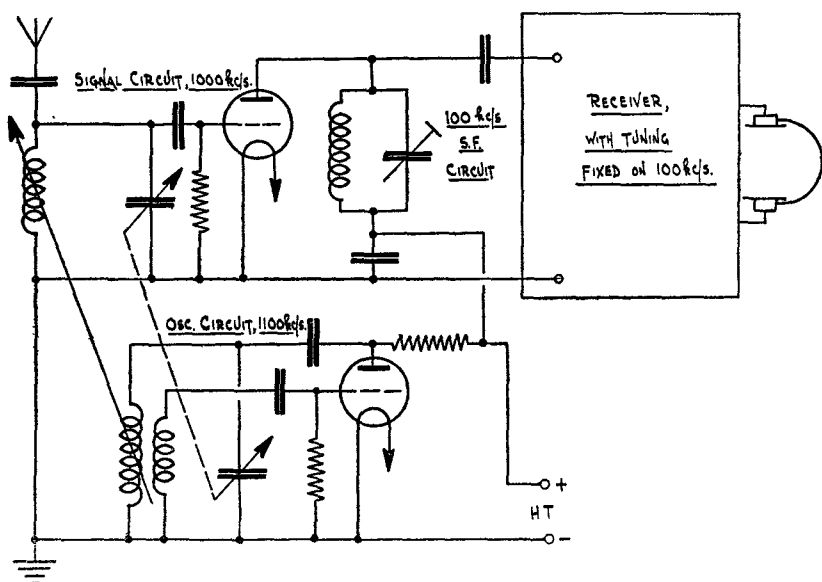

FIG. 74.—Simple “superhet” receiver.
This arrangement is, in fact, functioning as a “frequency changer”. The 100 kc/s signal would not operate the telephones in fig. 35, being above audibility (i.e. “supersonic”); coupling a straight receiver tuned to 100 kc/s to the anode circuit of the frequency changer produces a simple supersonic heterodyne (“superhet”) receiver (fig. 74), which will give the following advantages over a “straight” receiver.
3. A frequency changer of the type in fig. 74 has the serious disadvantage that, as the signal and oscillator circuits are directly coupled, any alteration in one circuit will alter the other. This "pulling" of the circuit renders tuning of this arrangement very difficult, especially with C.W. signals. An "isolator" or "buffer" valve is therefore introduced between oscillator and signal circuits. This is a screen grid valve, so that coupling between its anode circuit (the signal circuit) and its grid circuit (the oscillator circuit) is effectively prevented.